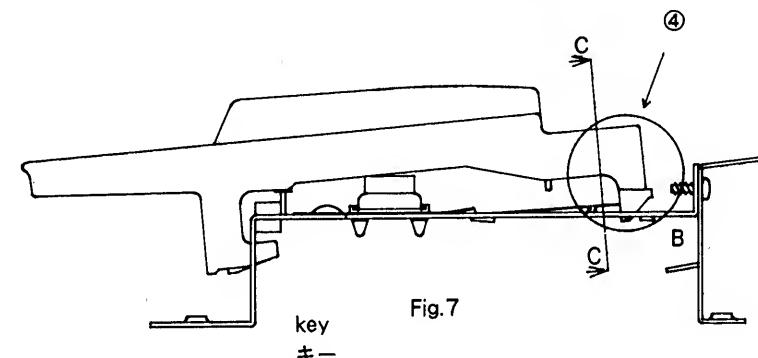
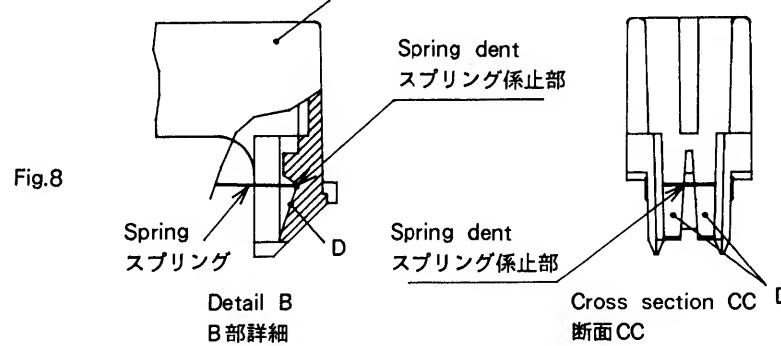

Fig.7
Fig.8
2. Referring to Fig.7 and Fig.8, fit the spring in the spring dent and press the key in the direction of ④.
Firmly rest the spring on the spring dent (Fig.8).